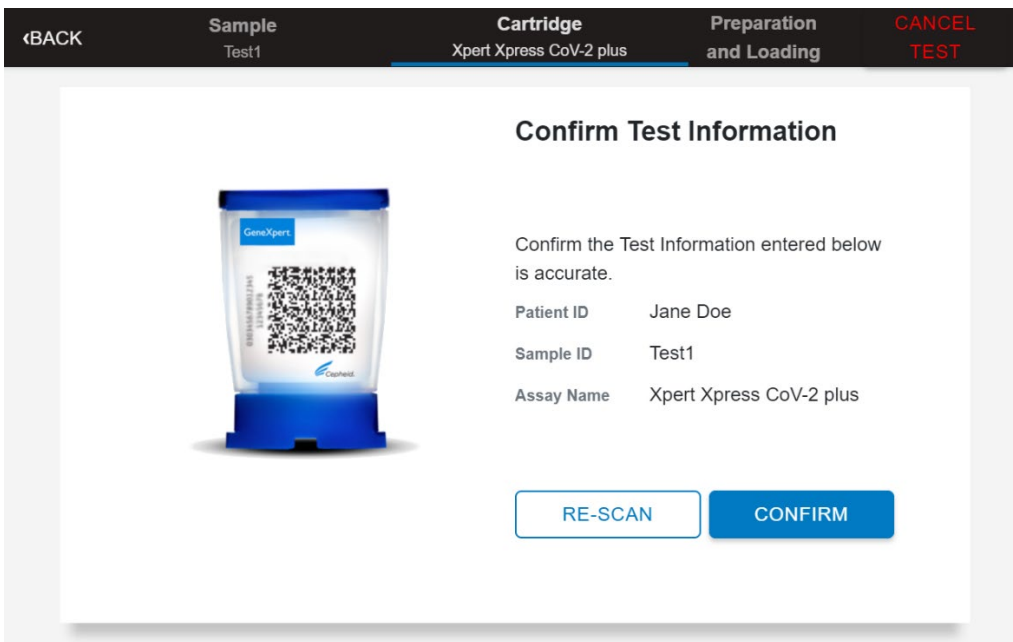

Figure 18. Confirm Test Information Screen
6. Verify that the correct cartridge has been scanned and that the assay name matches the name of the assay on the cartridge (see Figure 18).